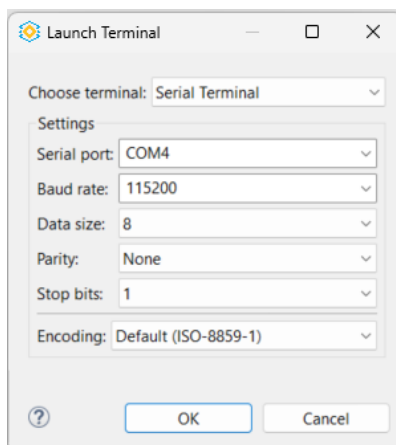
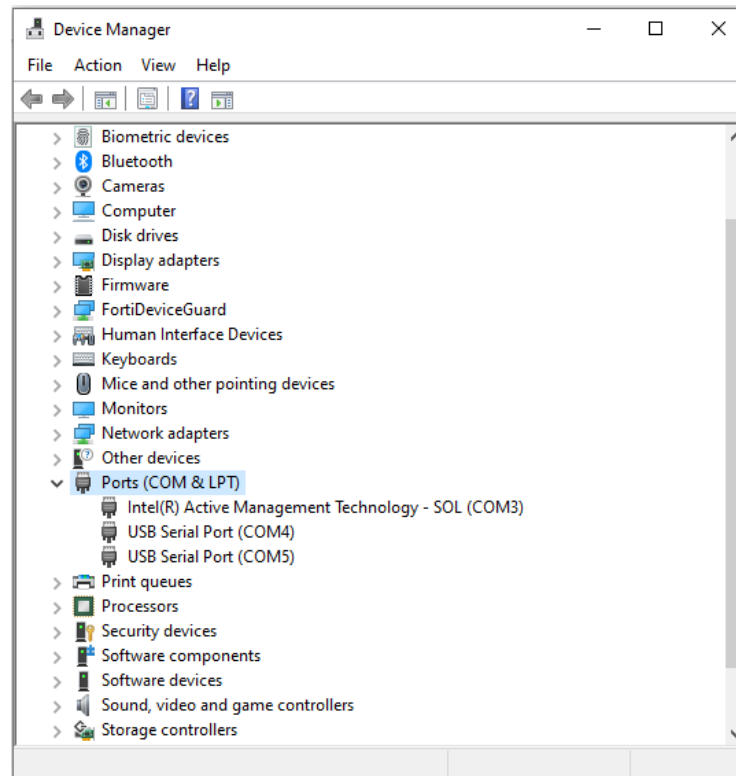

Figure 6.5. UART Launch Terminal Window
Figure 6.6. Device Manager Window on PC
4. Select **Serial Terminal** as shown in Figure 6.5. In Serial port dropdown list, select the first COM in the list as shown in Figure 6.6.